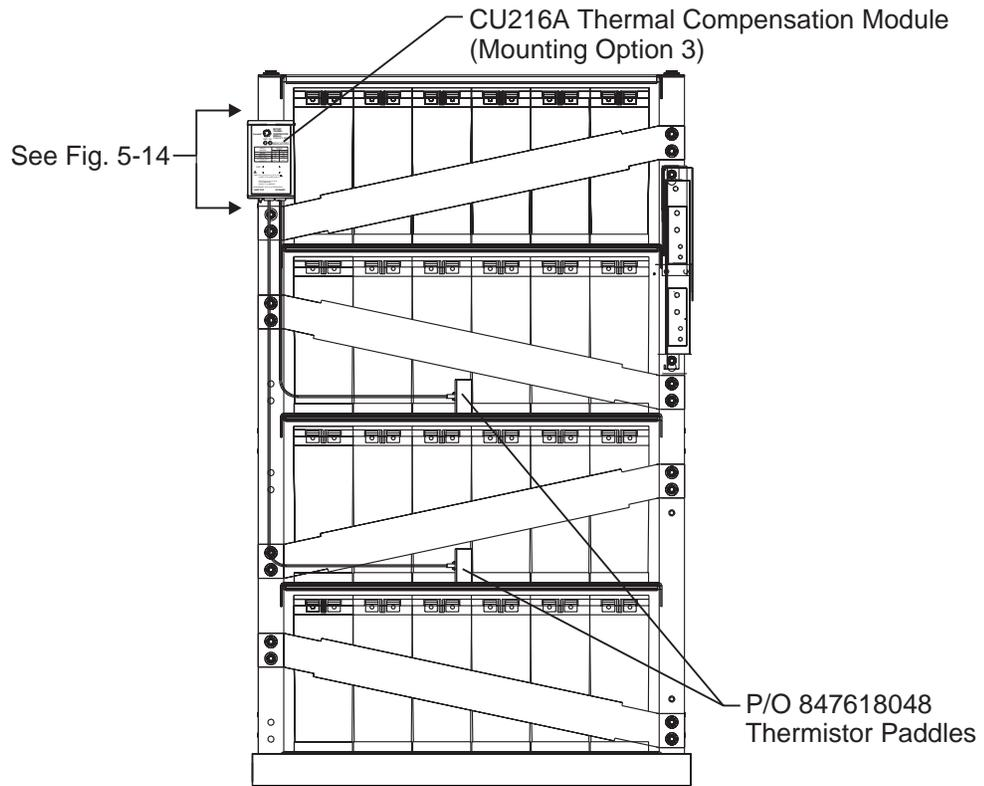

Figure 5-12: Placement of Thermistors in VR Battery Stand
Option 3: Mount the 216A Control Unit on the battery stand (not the batteries) in any convenient location using either the VR Module bracket and 1 or 2 10-32 screws or using the Velcro strips. If the Velcro strips are used, affix the Velcro hooks to a clean surface on the battery stand and the Velcro loops to the back of the Terminal Block Assembly (must be cleaned). Consider the distance between the battery plant and the battery stand before choosing this option. (See Option 3 on Figure 5-12.)
2. Temporarily insert the thermistors in the battery locations to be monitored. See Figure 5-12 for suggested locations between the Lucent VR Batteries. Dress the thermistor wire sets from the Terminal Block Assembly to the thermistors and cut to proper length. The thermistors will need to be removed from the battery string during testing so do not secure them into place at this time.